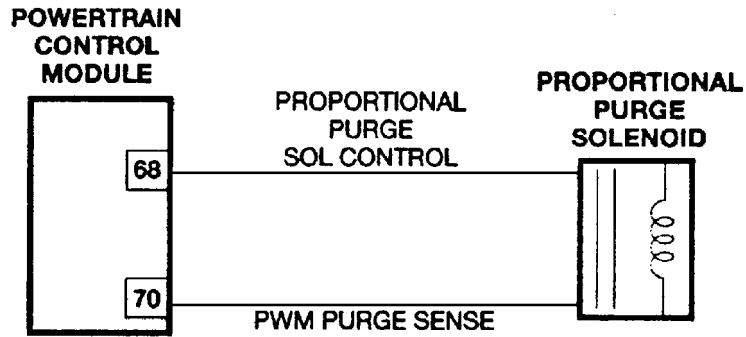

Figure C064-4 Evaporative proportional purge solenoid circuit for 1999–2001 car and minivan;
- Figure C064-4 Evaporative proportional purge solenoid circuit for: